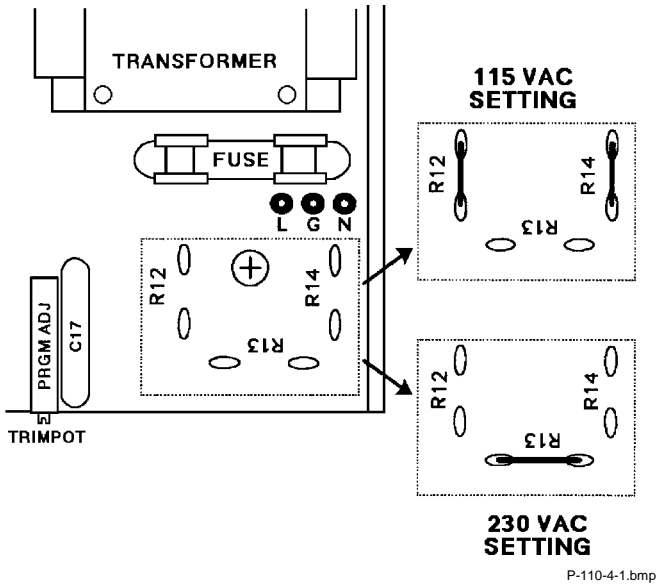

Figure 4-1. Fuse Replacement and Jumper Configurations
3. Remove fuse with a fuse puller. The fuse is located behind the transformer as shown in Figure 4.1.
3. Modify jumper configuration to desired line voltage (see Figure 4-1).